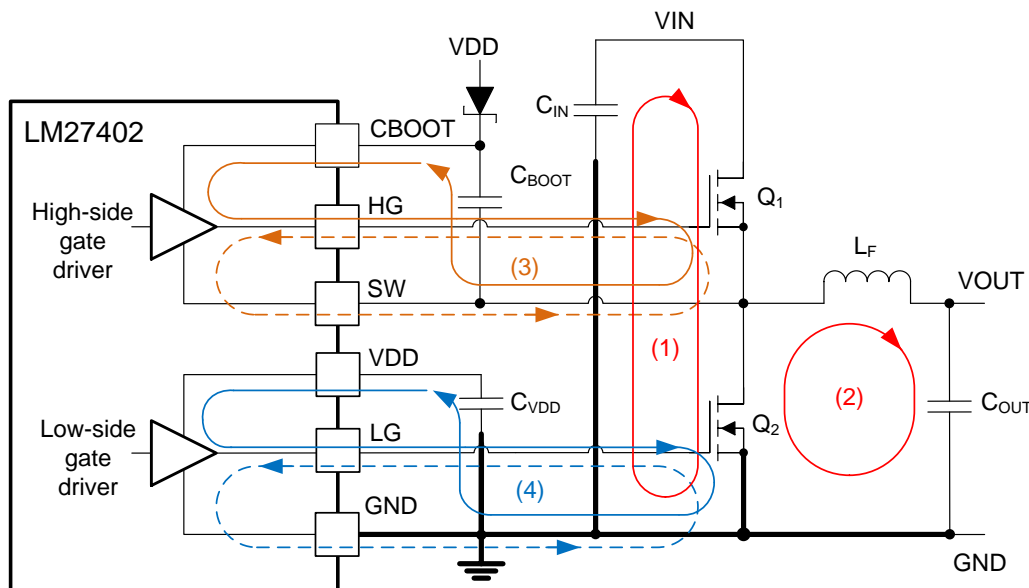

Figure 48. DC-DC Converter Ground System With Power Stage and Gate Drive Circuit Switching Loops
Careful PCB design and layout are important in a high current, fast switching circuit (with high current and voltage slew rates) to assure appropriate device operation and design robustness. As expected, certain issues must be considered before designing a PCB layout using the LM27402. The main switching loop of the power stage is denoted by 1 in Figure 48. The buck converter topology means that particularly high di/dt current will flow in loop 1, and it becomes mandatory to reduce the parasitic inductance of this loop by minimizing its effective loop area. For loop 2 however, the di/dt through inductor L_F and capacitor C_{OUT} is naturally limited by the inductor. Keeping the area of loop 2 small is not nearly as important as that of loop 1. Also important are the gate drive loops of the low-side and high-side MOSFETs, denoted by 3 and 4, respectively, in Figure 48.
- Loop 1: The most important loop to minimize the area of is the path from the input capacitor(s) through the high- and low-side MOSFETs, and back to the capacitor(s) through the ground connection. Connect the input capacitor(s) negative terminal close to the source of the low-side MOSFET (at ground). Similarly, connect the input capacitor(s) positive terminal close to the drain of the high-side MOSFET (at VIN). Refer to loop 1 of Figure 48.
- Loop 2. The second important loop is the path from the low-side MOSFET through inductor and output capacitor(s), and back to source of the low-side MOSFET through ground. Connect source of the low-side MOSFET and negative terminal of the output capacitor(s) at ground as close as possible. Refer to loop 2 of Figure 48.
- 5. The SW pin connects to the switch node of the power conversion stage, and it acts as the return path for the high-side gate driver. The parasitic inductance inherent to loop 1 in Figure 48 and the output capacitance (C_{OSS}) of both power MOSFETs form a resonant circuit that induces high frequency (>100 MHz) ringing on the SW node. The voltage peak of this ringing, if not controlled, can be significantly higher than the input voltage. Ensure that the peak ringing amplitude does not exceed the absolute maximum rating limit for the SW pin. In many cases, a series resistor and capacitor snubber network connected from the SW node to GND damps the ringing and decreases the peak amplitude. Provide provisions for snubber network components in the printed circuit board layout. If testing reveals that the ringing amplitude at the SW pin is excessive, then include snubber components.
- Loop 3: high-side MOSFET, Q_1 . During the high-side MOSFET turn on, high current flows from the boot capacitor through the gate driver and high-side MOSFET, and back to negative terminal of the boot capacitor through the SW connection. Conversely, to turn off the high-side MOSFET, high current flows from gate of the high-side MOSFET through the gate driver and SW, and back to source of the high-side MOSFET through the SW trace. Refer to loop 3 of Figure 48.
- Loop 4: low-side MOSFET, Q_2 . During the low-side MOSFET turn on, high current flows from VDD decoupling capacitor through the gate driver and low-side MOSFET, and back to negative terminal of the capacitor through ground. Conversely, to turn off the low-side MOSFET, high current flows from gate of the low-side MOSFET through the gate driver and GND, and back to source of the low-side MOSFET through ground. Refer to loop 4 of Figure 48.